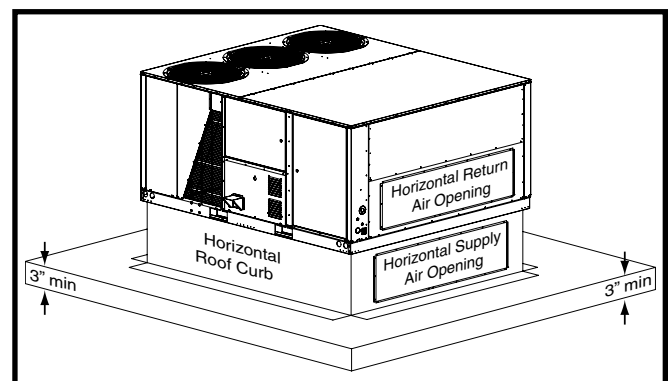

Figure 7. Concrete Mounting Pad
- A concrete mounting pad (Figure 7) must be provided and separate from the building foundation. The pad must be level to ensure proper condensate disposal and strong enough to support the unit's weight. The slab height must be a minimum of 3" (8cm) above grade and with adequate drainage.